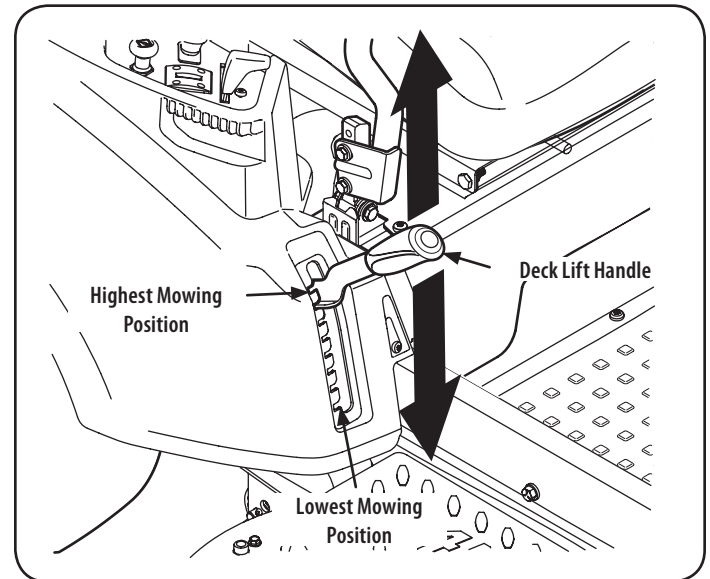

Figure 30
- a. Using the deck lift handle, raise the deck to the position that provides the most horizontal run of the belt between the deck idler pulleys and the PTO pulley on the bottom of the engine. See Figure 30.
6. Lower the deck into the lowest position using the deck lift handle. See Figure 30.
1. Place the deck lift handle in the highest mowing position See Figure 30.